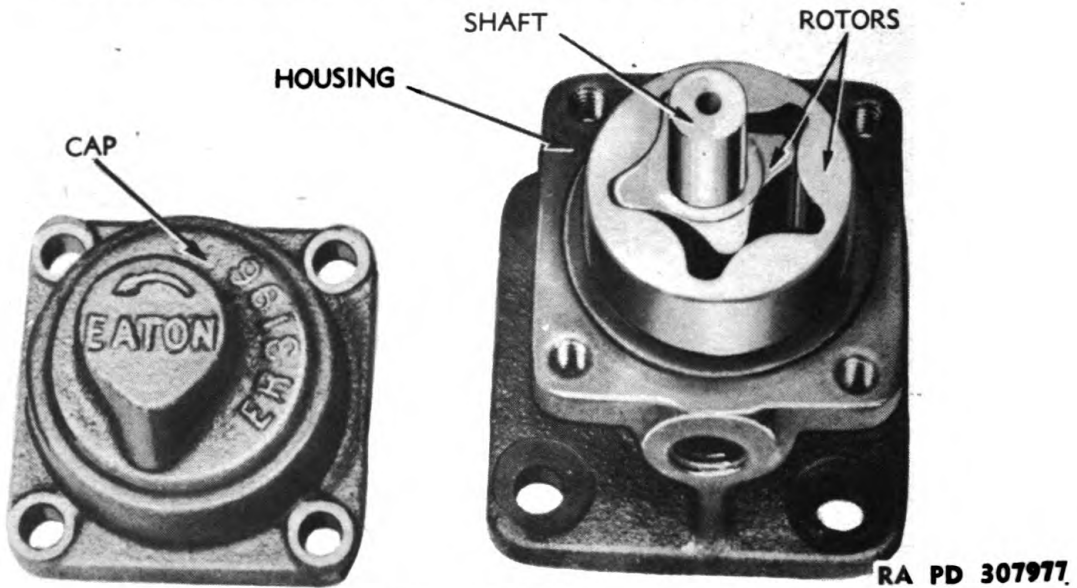

Figure 169 — Auxiliary Fluid Pump Cap Removed
a. Remove the four cap screws and lock washers that attach the pump cap to pump housing and remove cap from rotors (fig. 169).